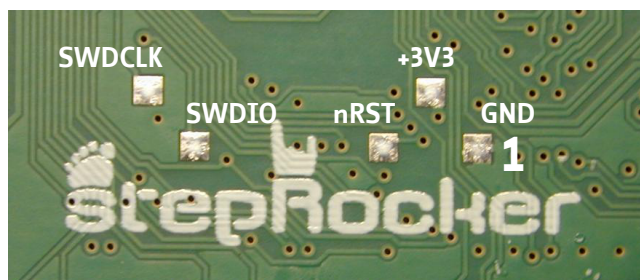

Figure 3: TCM-1211 StepRocker Programming Pads
2. Short the SWDIO pad with the SWDCLK pad (on the bottom side of the PCB, see figure 3).